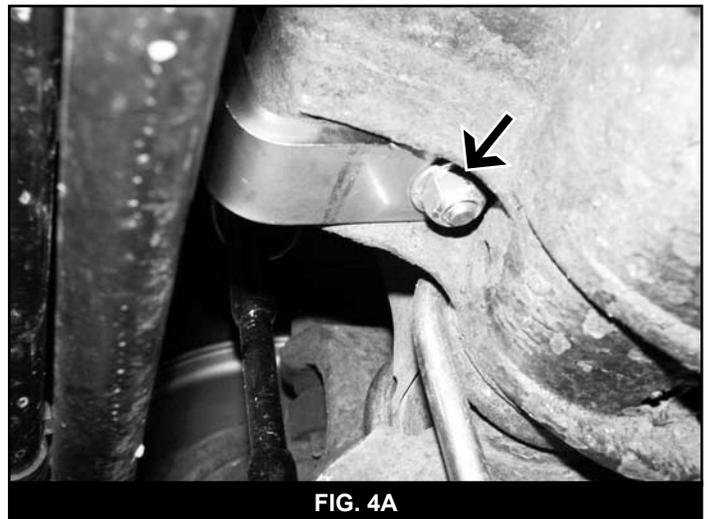

FIG. 4A
27. Mark the location of the slotted hole using the bracket as a template. (Fig. 4A)